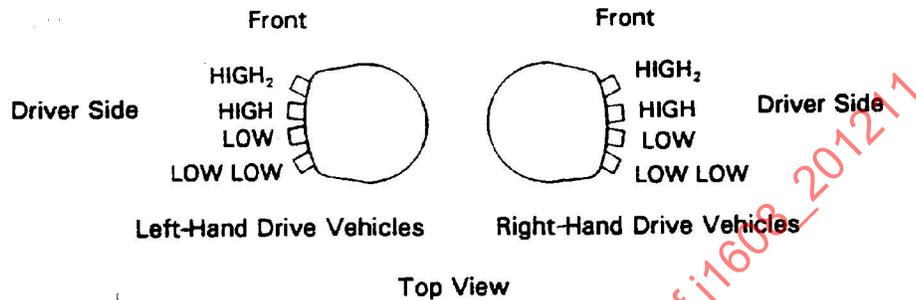

FIGURE 2—SPLITTER-SHIFT CONTROL
**3.3.1 SPLITTER-SHIFT CONTROL**—Located on the side of the shift control adjacent to the driver for thumb operation. Operates in a plane (which is parallel to the top of the shift knob) with the clockwise movement providing high split and counterclockwise movement low split (see Figure 2). Right-hand drive reverses button motion.